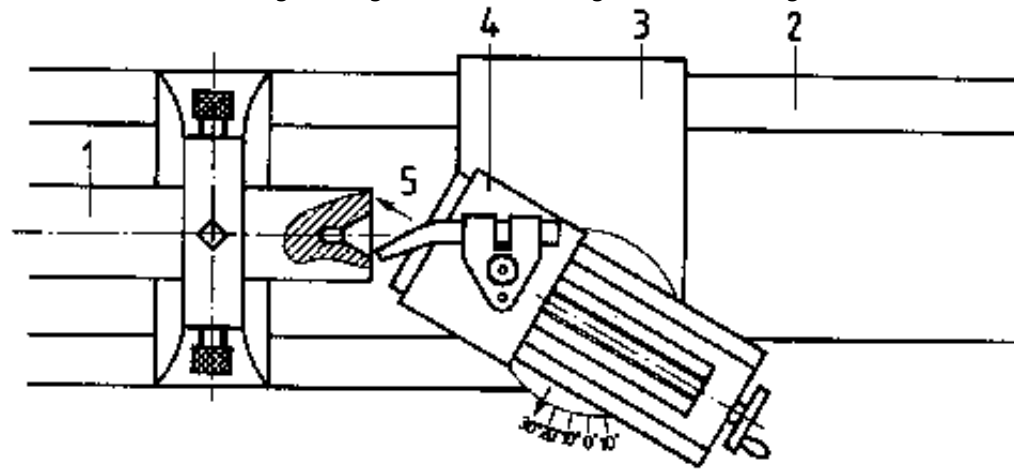

Figure 24 Centring by top slide adjustment
- Normally the top slide adjustment (Fig. 24) is utilized for centring.**